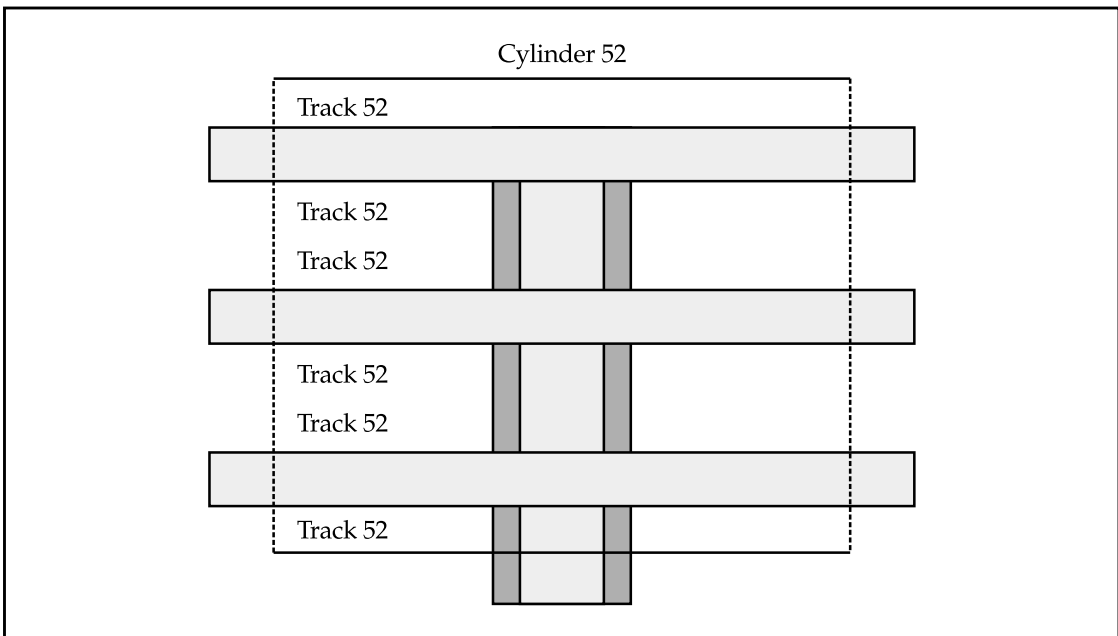

Figure 9-9. Disk cylinders are made up of the same tracks on each platter
- **Cylinders** *Cylinders* reflect how the read/write heads move in and out of the disk platters in unison. This grouping technique is unique to hard disks. A cylinder is the logical grouping of the same track on each disk surface. For example, if a hard disk drive has three platters, as illustrated in Figure 9-9, it has six disk surfaces and six track 52s. All six track 52s combine logically to create cylinder 52. Data is written vertically between disks following the track and cylinder path, which eliminates the need to move the read/write heads.